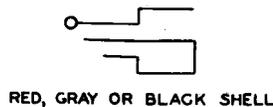

Fig. 6—184B Plug
2.08 **184B:** The ring connector of the 184B plug (Fig. 6) is strapped to the plug body. The 184B plug is furnished with a red shell, but can be obtained with a gray or black shell. The 184B plug replaces the 184 and D-93279 plugs and is used with the 49- or similar-type jacks.